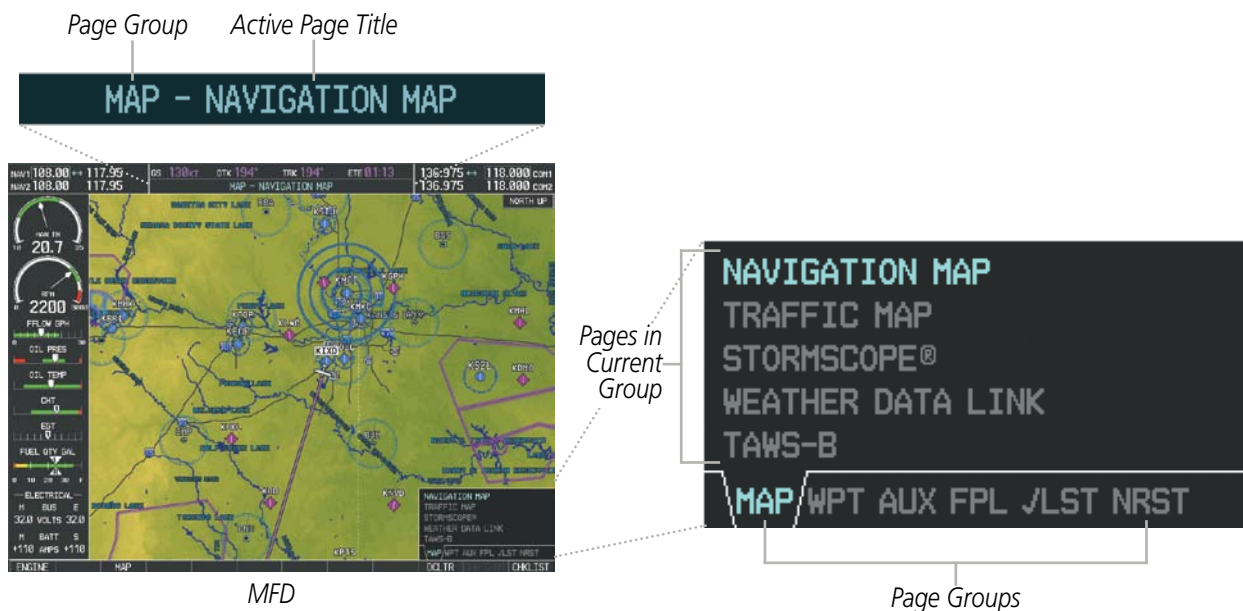

Figure 1-22 Page Title and Page Groups
- 2) Turn the large **FMS** Knob until the desired page group is selected. For example, the MAP page group is selected in Figure 1-22.